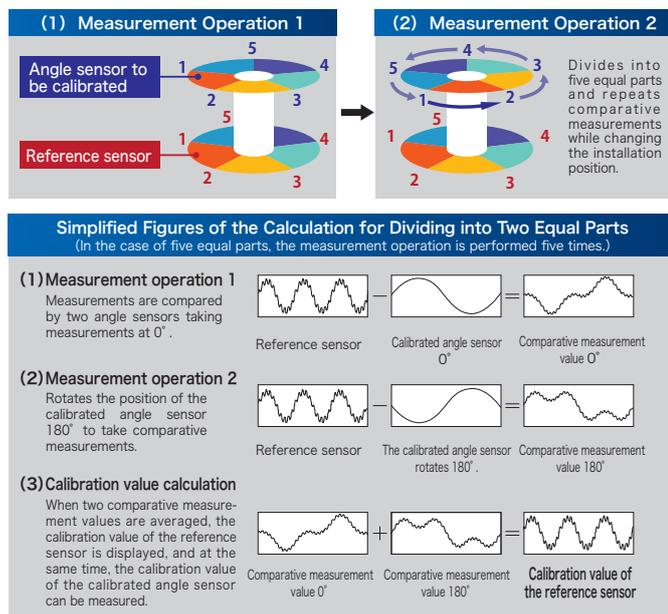

Figure 3
### (2) Method for dividing equally (Figure 3)